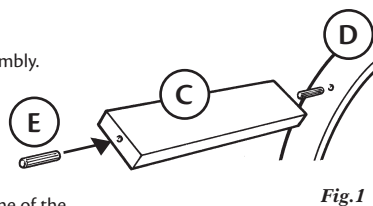

Fig.1
2. Insert the dowels (E) into both ends of the rafters. (Fig.1)